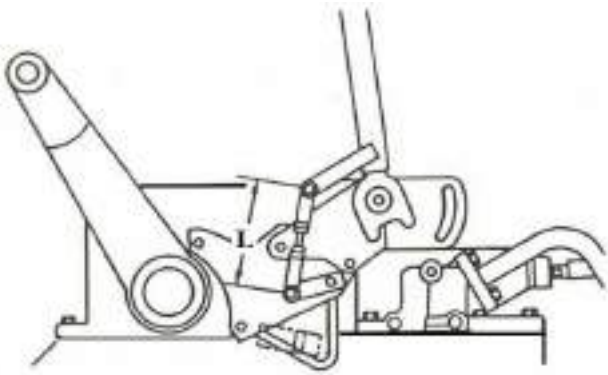

Fig.9-5
- 9) Apply rod length L as specified(Fig.9-5)